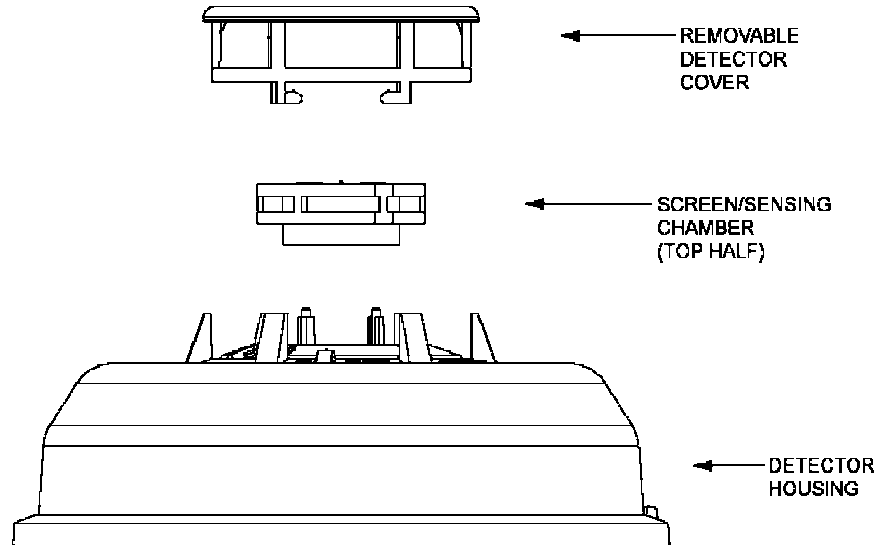

Figure 4 Removing Screen/Sensing Chamber
4. Remove the top half of the screen/sensing chamber by lifting straight up. (Figure 4)
11. If the detector does not function as described in item 10 then start over at step 2. If it still doesn't operate correctly then replace the entire unit.